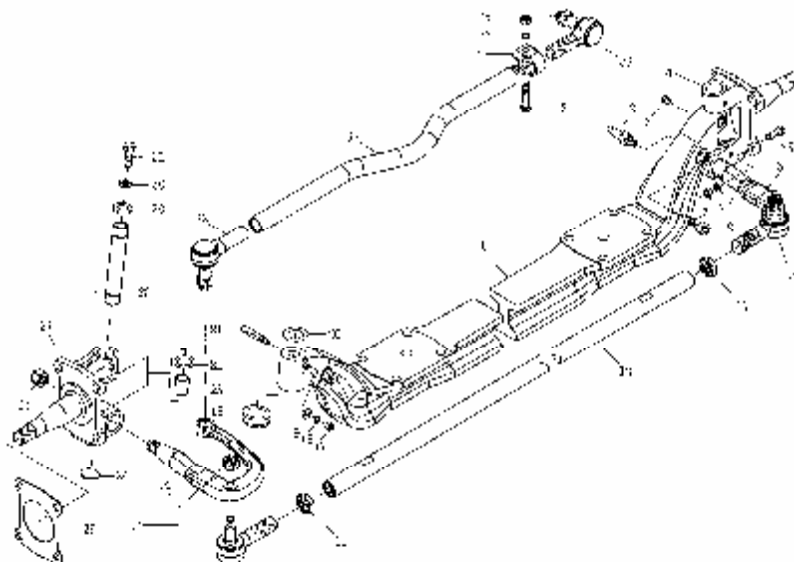

Figure 7-5-1 Front axle and steering knuckle
Front axle (figure 7-5-1) is an integrated structural frame forged by steel with I section. There are two enlarged spring leaf brackets on upper edges. Bracket’s two ends are thickened with holes into that steering knuckle pin (kingpin) is inserted and retained with kingpin locking pin. Steering knuckle upper/lower eyes connects to bracket’s two ends via kingpin. Steering knuckle thrust bearing is mounted between knuckle lower eye and bracket end. Outside two eyes are knuckle pin covers that used for dust-proof. Beside, there are bolt holes around bracket two ends that used to mount front shock absorber lower pin.
One end of LH knuckle arm (figure 7-5-1) connects to LH knuckle, another end to drag link assembly via drag link ball joint. And its center connects to one end of tie rod whose another end connects to RH knuckle arm. RH/LH connectors of tie rod adopt ball joint design. Tie rod uses screw connector, which makes toe-in adjustment easy.
(1) Check and repair kingpin and bush. Measure kingpin diameter and bush inner diameter. Change bush if fitting clearance exceeds limit. Change kingpin if its outer diameter is smaller than limits due to wear. See figure 7-5-1.
(1) Press knuckle upper/lower sleeve into pinhole with oil duct open facing upward, and oil sleeve oil hole aligning knuckle oil hole.
(2) Mount circular key onto LH knuckle arm, and punch it with copper hammer slightly into bevel hole in LH knuckle lower eye. Tighten throttled nut. Mount RH knuckle arm with same procedures.
3.Reassembly and adjustment – front axle (figure 7-5-1)